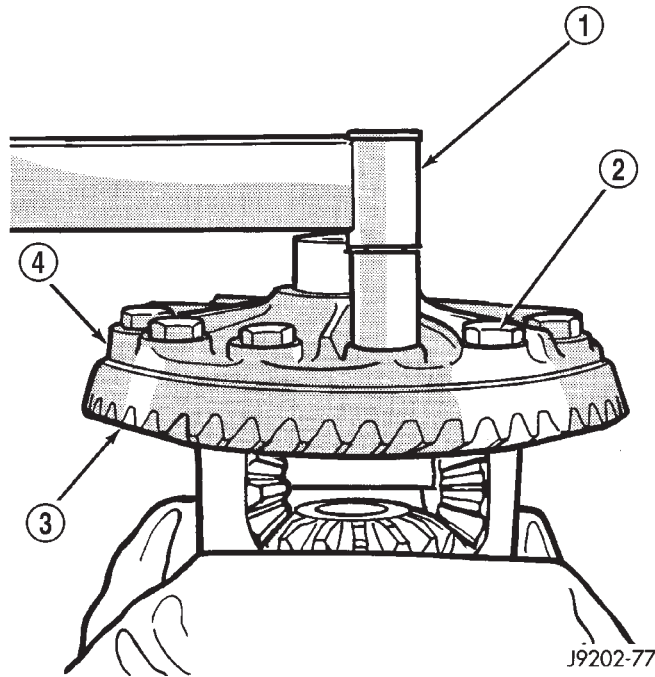

Fig. 66 Ring Gear Bolt Installation
(1) Invert the differential case and start two ring gear bolts. This will provide case-to-ring gear bolt hole alignment.
(2) Invert the differential case in the vise.
(3) Install new ring gear bolts and alternately tighten to 95-122 N-m (70-90 ft. lbs.) torque (Fig. 66).
(4) Install differential in axle housing and verify gear mesh and contact pattern.